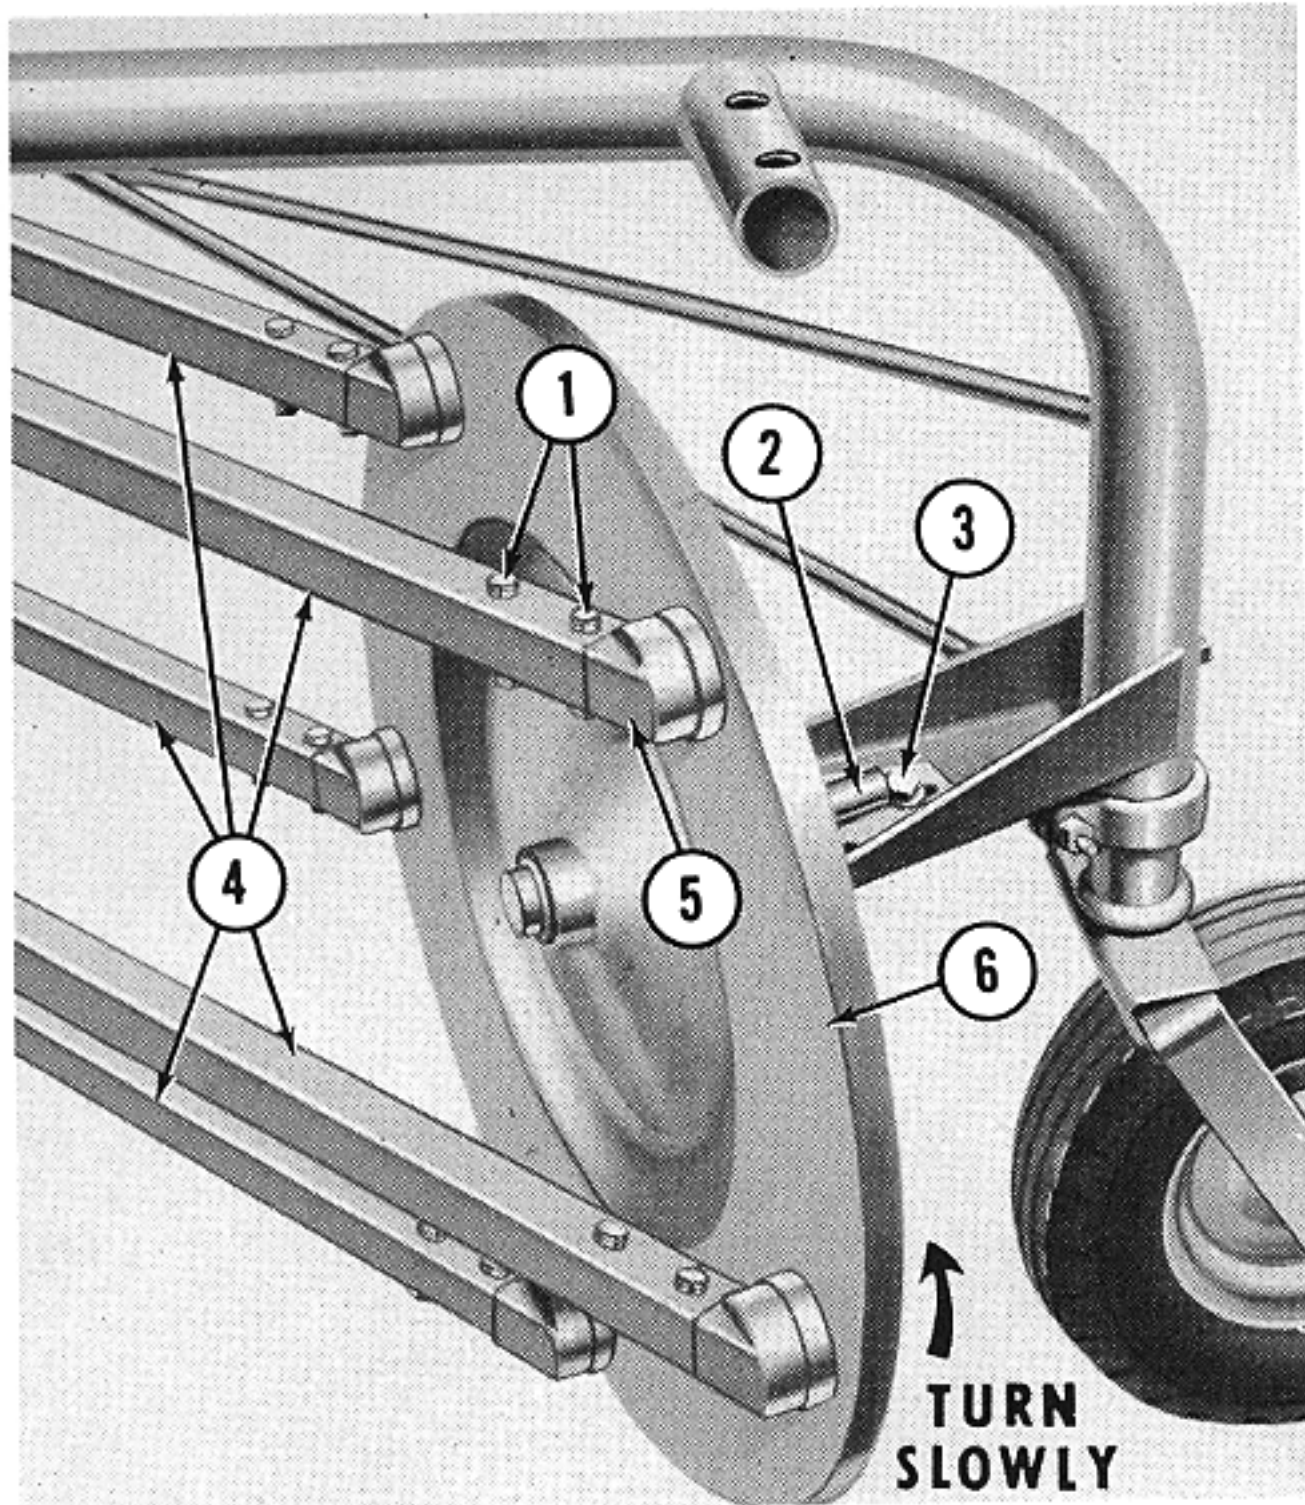

Figure 3
- b. Bolt the left reel assembly (6), Figure 3, to the main frame with the $\frac{1}{2}$ " x $1\frac{1}{2}$ " bolt (3), flat washer, lockwasher and nut as shown. Do not tighten the nut securely at this time.
- c. Attach the five tooth bars (4), Figure 3, to each of the bearing housings (5) on the right and left reel with two $\frac{3}{8}$ " x 2" hex head bolts (1), lockwashers and nuts.
NOTE: To facilitate this assembly, position the tooth bars on the bearings in the right reel first. Do not insert bolts. Then, slowly turn the left reel as indicated in Figure 3 and start each tooth bar on its respective bearing as the bearings come into position. Angle the left reel and spindle bracket (2), Figure 3, as required to fit each of the tooth bars (4) on the bearings and insert the tooth bar retaining bolts (1) at each end of each tooth bar. Tighten the bolts securely with lockwashers and nuts.